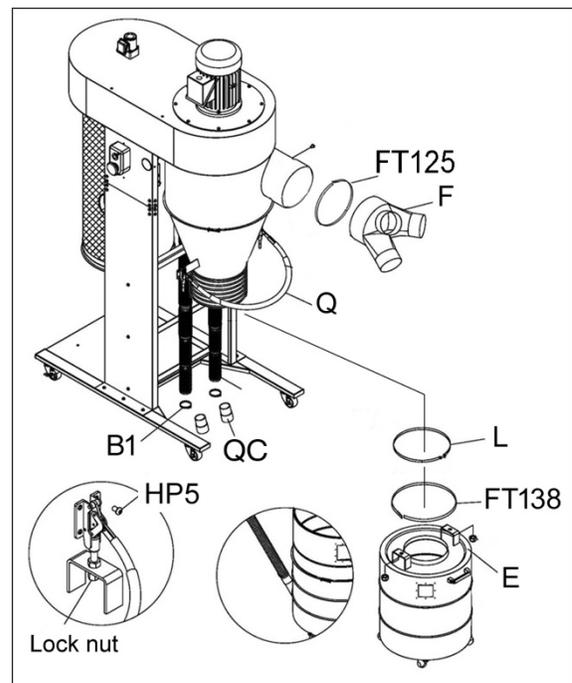

Figure 5-9
19. Paste 1Wx25L inch foam tape (FT125) around the inlet port at its edge. Trim excess. See Figure 5-9.
20. Push inlet adaptor (F) onto housing inlet and tighten with screw.
21. Paste 1Wx38L inch foam tape (FT138) around flange of drum lid (E).
22. Roll drum beneath cone and work hose on to drum lid. Secure with hose clamp (L).
23. Install quick lever (Q) to flanges of cone with button head screws (HP5, see inset). Then connect bottom of handle to drum lid with hex nut on top and lock nut underneath.
24. Push quick connectors (QC) into the 2-inch hoses, tighten with hose clamps, and place connectors onto ports at back of drum (B1).